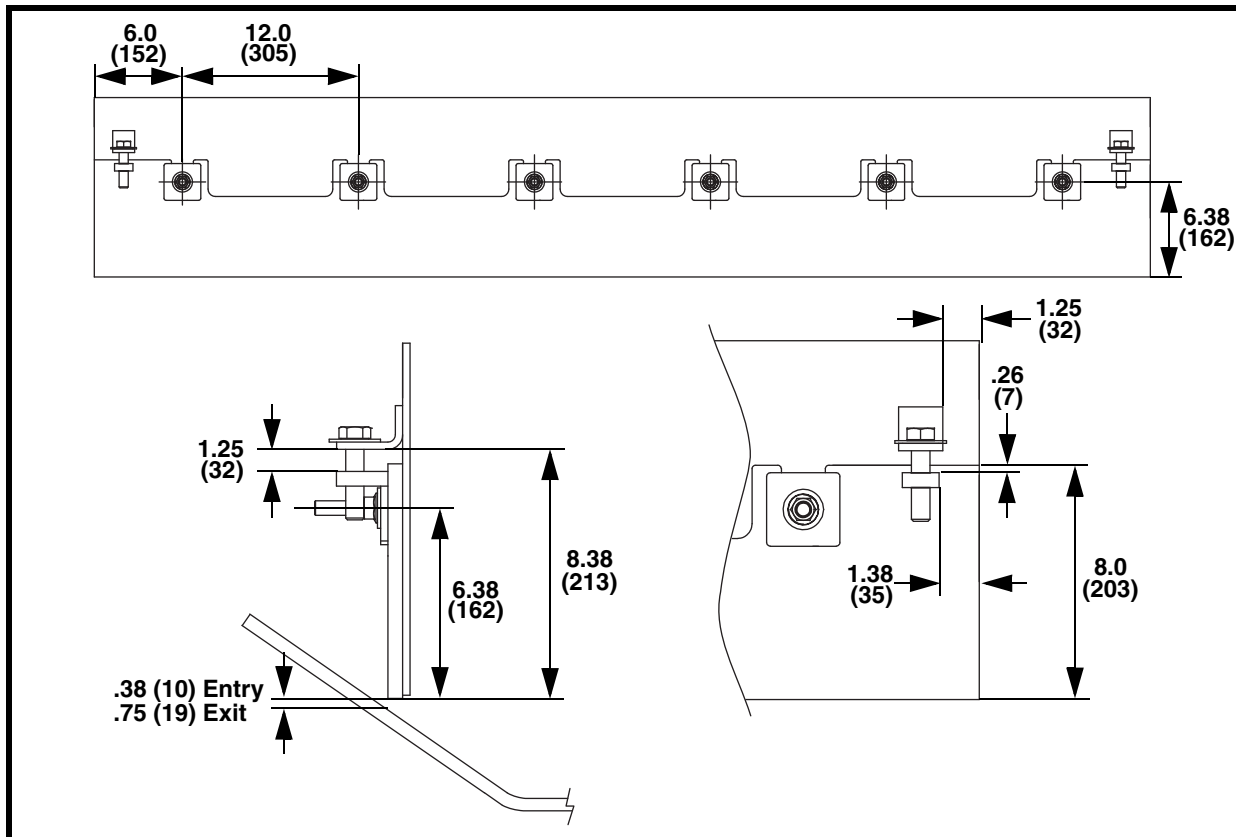

Figure 1. External Wear Liner Location
6. Weld threaded plates (C) to wear liner (A) according to dimensions in Figure 1.
8. Install jack screw tab (D) and flat washer (F) onto cap screw (E) and thread screw into threaded plate.
12. Install clamp plate (G), flat washer (H) and nut (I) onto studs (B) and tighten.